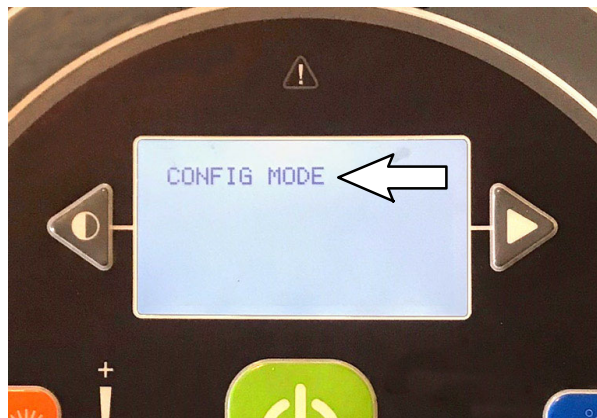

FIG. 27
- The pod assembly (1) should boot to the Service Modes menu. Press the right arrow button/left arrow button to scroll to the CONFIG MODE menu from the Service Modes menu. (Fig. 27)